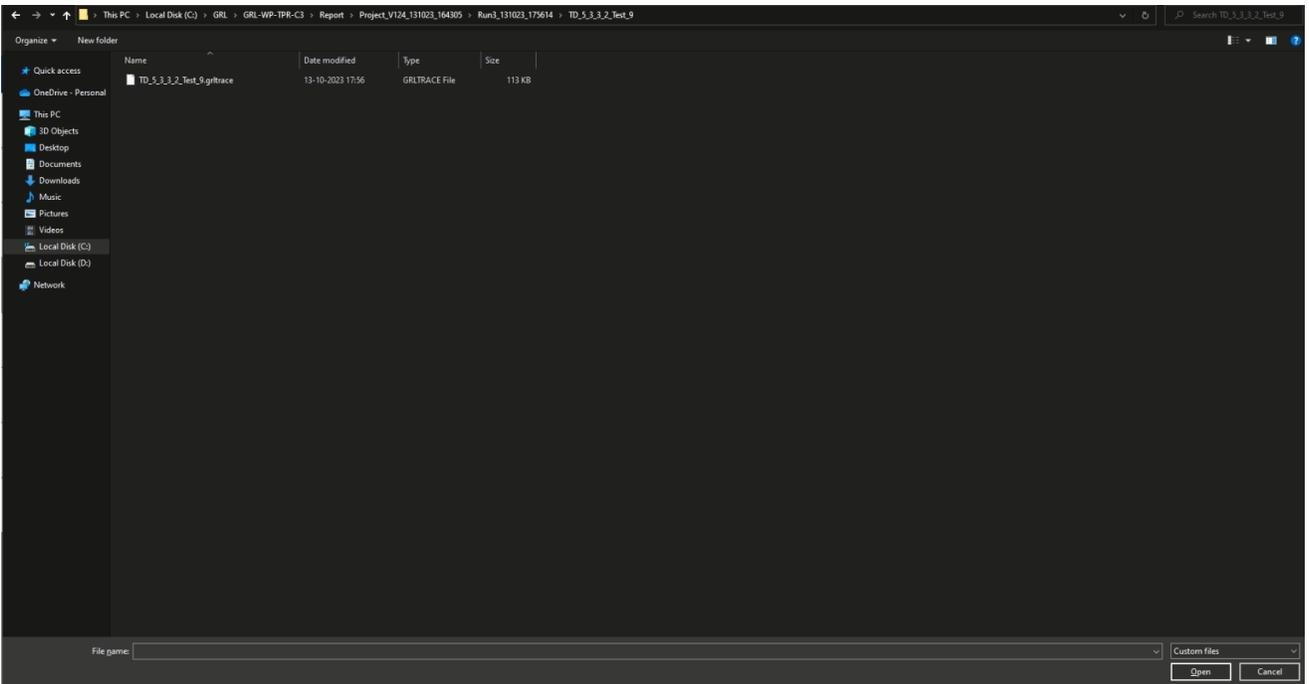

FIGURE 8.65: SELECT SAVED TRACE FILE
2. Select the required **.grltrace** file (that was saved from a previous test run) as shown in the example in Figure 8.65 below.